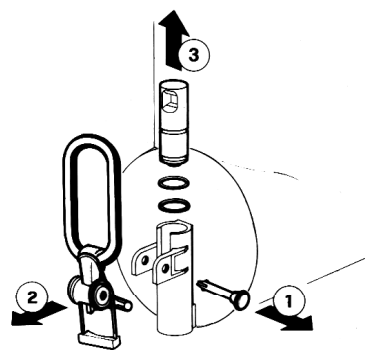

figure 12
6 - Dismantle the faucet assembly (see figure 12).
- 3 - Assemble the faucet by reversing the disassembly steps (see figure 12)